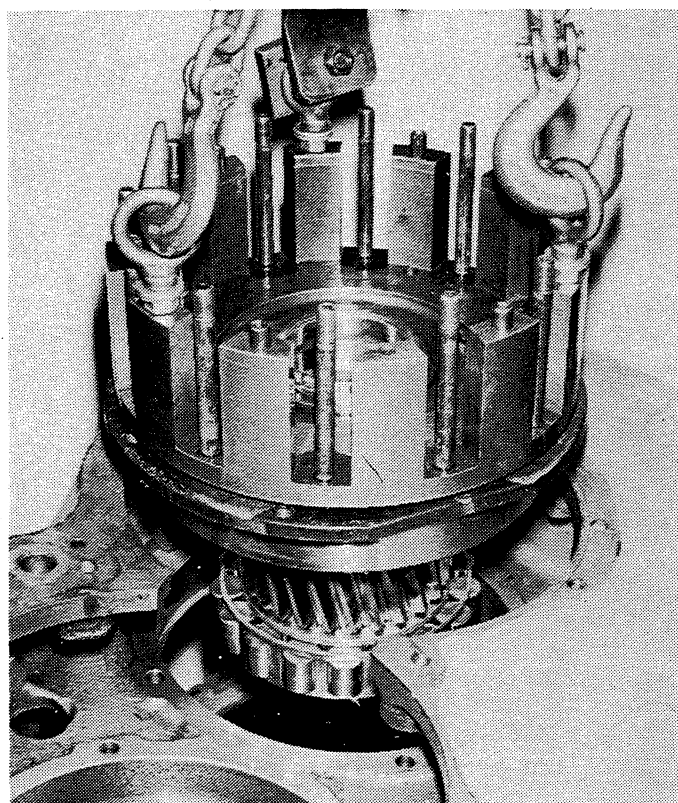

Figure 6-38. Removing or Installing Drive Spider, Input Pinion and Attached Parts.
3. Remove the input pinion, drive spider, and attached parts as an assembly by pulling it rearward from the housing. See Figure 6-38.